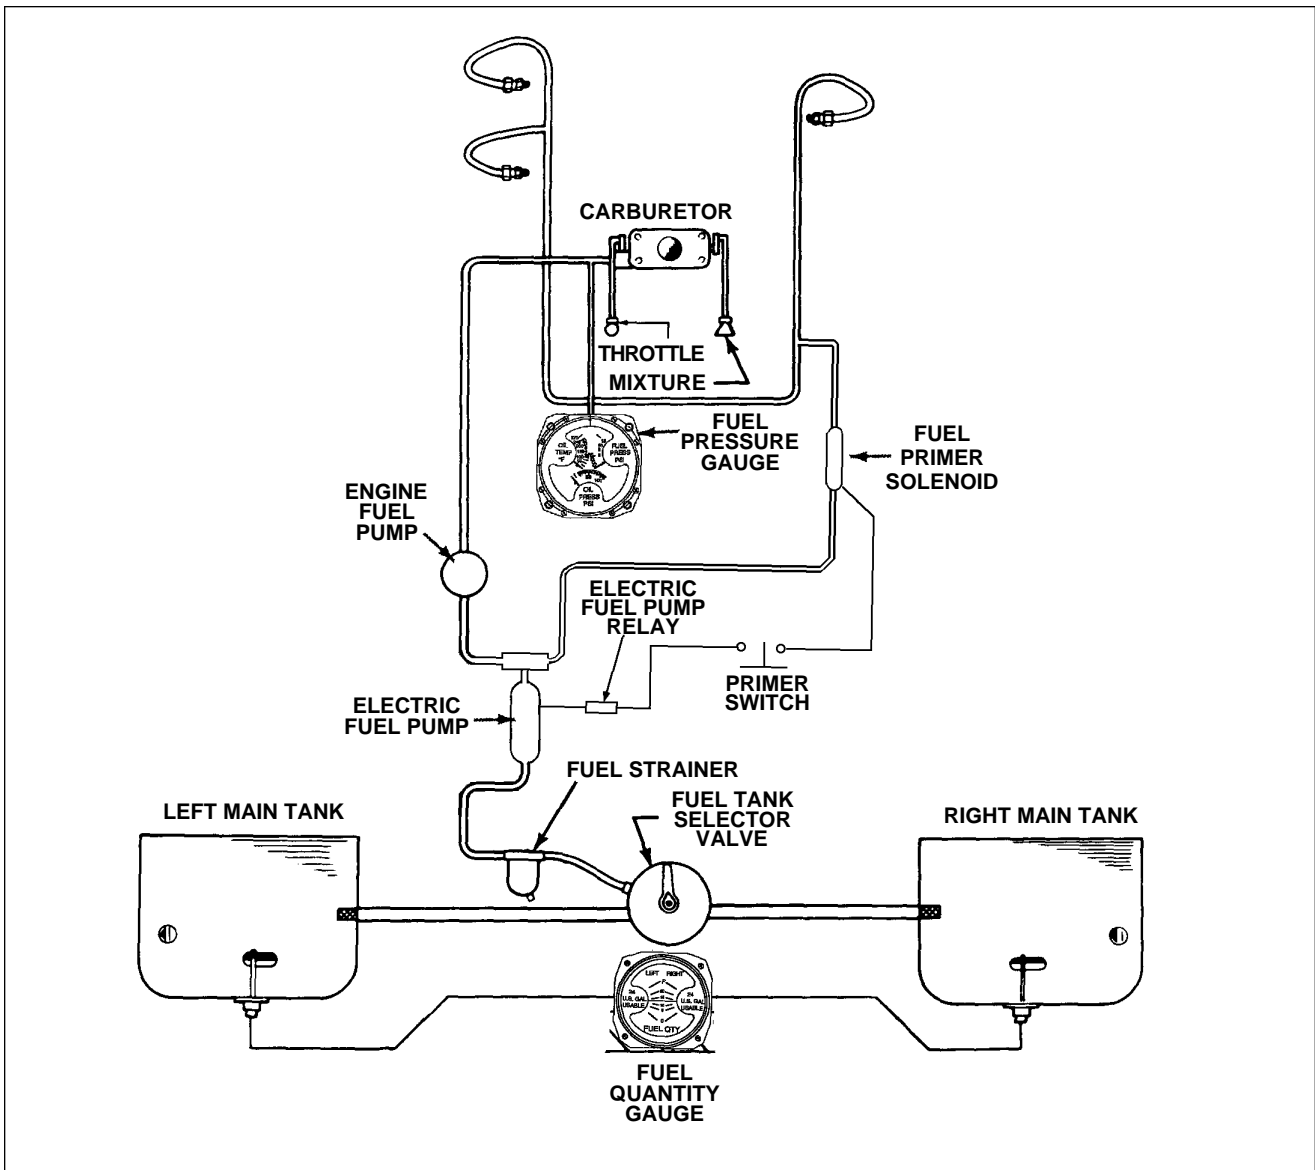

Figure 28-2. Archer III Fuel System Diagram
2. Archer III (Refer to Figure 28-2)